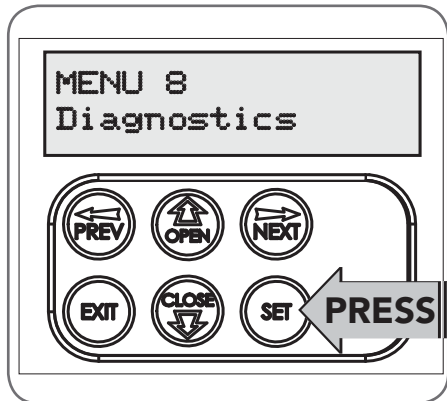

Fig E.1
- Press PREV to navigate to Menu 8 (Fig. E.1).